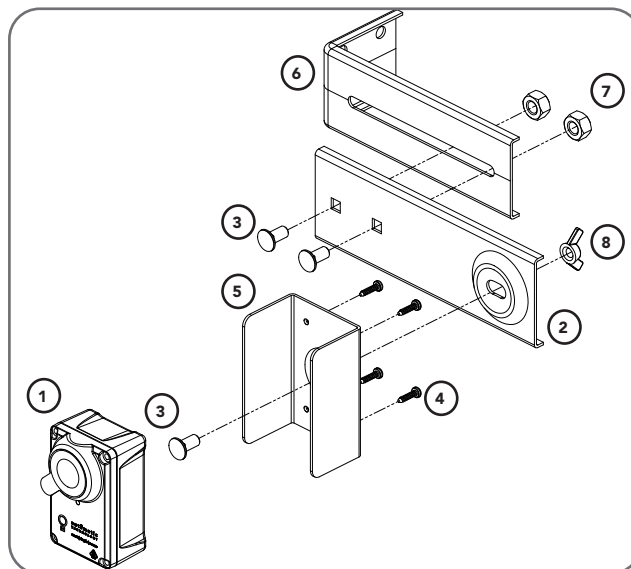
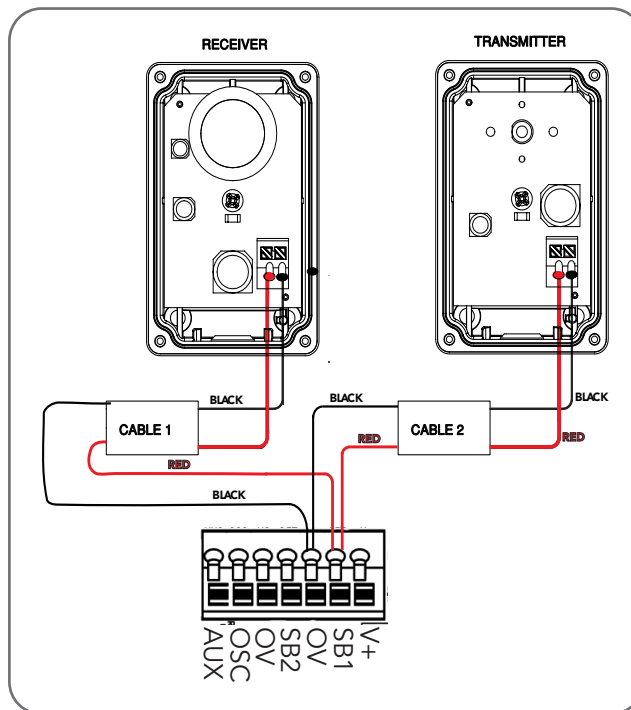

Fig.6.6.1
Fig.6.6.2
- Place the round screw (3) through the Bracket (5). Attach the Safety Beam Transmitter (TX) using four (4) M3 x 5 Taptite screws (4) (Fig. 6.6.1).
- Connect the mounting bracket (2) to the Bracket (5) using the wing nut (8) onto the round screw (3). Secure the adjustment bracket (6) to the mounting bracket (2) using two (2) screws (3) and nuts (7).
- Repeat steps (a) and (b) to assemble the Safety Beam Receiver (RX).
- Wire the PE Beams as per Wiring Diagram (Fig. 6.6.2).
WARNING: Connect the Safety Beam as per diagram in Fig 6.6.2. Tampering with the Safety Beam could result in serious personal injury and/or property damage and will void the warranty.